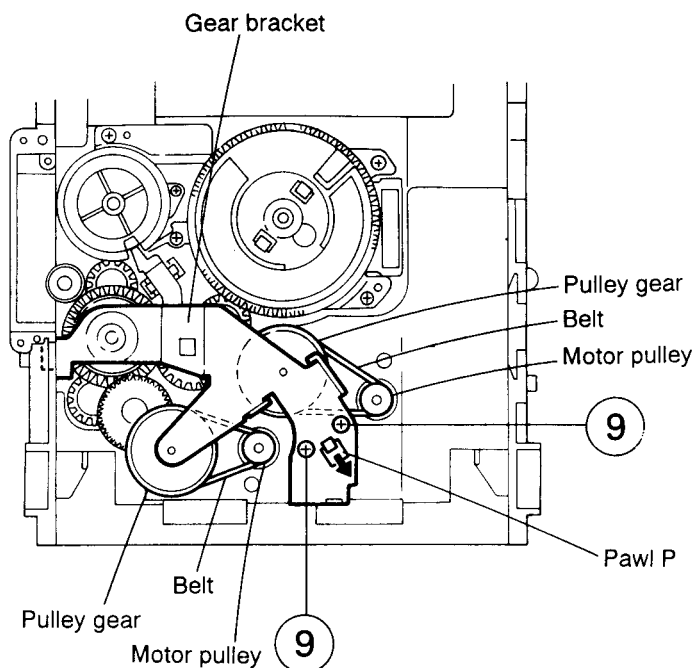

Fig. 5-40
(See Figs. 5-40 — 5-43)
1. Remove the two screws (9) retaining the gear bracket (See Fig. 5-40).
2. While pressing the pawl (P) fixing the gear bracket in the arrow direction, remove the gear bracket (See Fig. 5-40).
4. Remove the belts respectively from the right and left actuator motor pulleys and pulley gears (See Fig. 5-40).